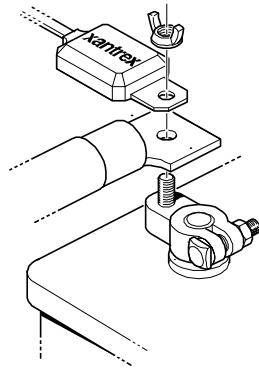

Figure 14 BTS Mounted on the Negative Battery Terminal
See Figure 14.
6. Mount the sensor directly on top of the ring terminal, as shown in Figure 14, and firmly tighten the terminal nut.